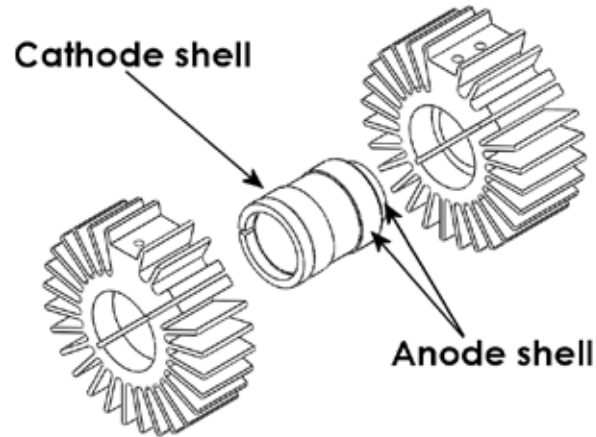

Figure 5. Bulb surfaces requiring they be covered with thermal compound.
| Figure 5. Bulb surfaces requiring they be covered with thermal compound.....      | 6  |
1. Without removing the protective cap from the new bulb, apply a thin, even layer of thermal compound to the side surfaces of the anode shell as shown in Figure 5.
3. Remove the protective cap from the new bulb. If there is no mounting ring attached, use the ring from the old bulb. Apply a thin, even layer of thermal compound on the cathode shell on the surface shown in Figure 5. Slide on the front heat sink, align it with the rear